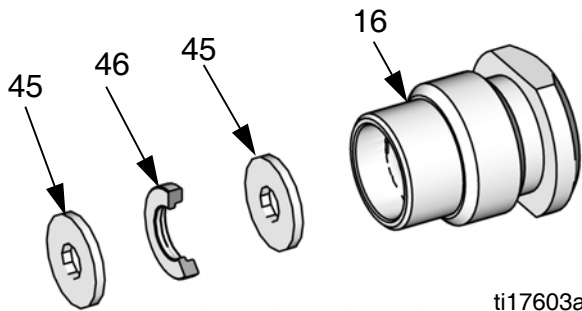

FIG. 20. Fluid packings
2. *All guns:* Reinstall the gasket (22) in the fluid housing (2).
3. Install the o-rings (8\*, 9\*) on the piston (3). Install the two o-rings (10\*, 11\*) on each of the piston stems (T). Lubricate all the o-rings, the piston, and the piston stems.
4. Remove the protective paper from the sticky side of the gasket (12\*) and adhere the gasket to the bottom of the piston housing (1), making sure the three holes in the gasket are properly aligned with the matching holes in the housing.
5. Lubricate the washers (45†) and spacer (46†). Insert them into the packing nut (16) as shown in FIG. 20. The step on the spacer faces into the packing nut.